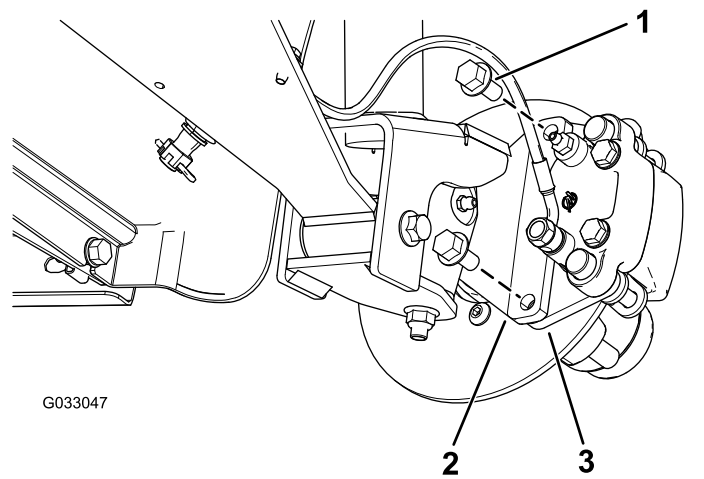
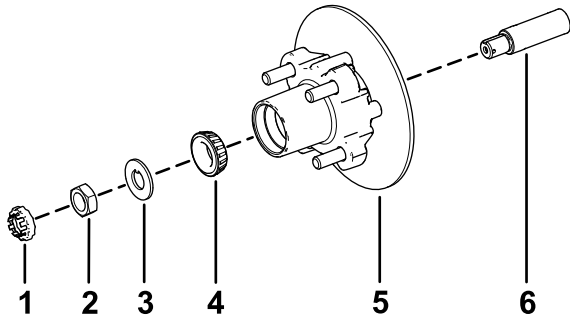

Figure 34
Figure 38
3. Remove the flange-head bolts (3/8 x 3/4 inch) that secure the bracket for the brake assembly to the spindle and separate the brake from the spindle (Figure 34).
1. Apply a light coat of the specified grease to the spindle (Figure 38).
2. Assemble the hub and rotor onto the spindle with the rotor inboard (Figure 38).
3. Assemble the outboard bearing onto the spindle and seat the bearing to the outboard race (Figure 38).
4. Assemble the tab washer onto the spindle (Figure 38).
5. Thread the spindle nut onto the spindle and tighten the nut to 15 N·m (11 ft-lb), while rotating the hub to seat the bearing (Figure 38).
2. Align the brake pads to either side of the rotor (Figure 34) and the holes in the caliper bracket with the holes in the brake mount of the spindle frame (Figure 38).
3. Secure the caliper bracket to the spindle frame (Figure 34) using the 2 flange-head bolts (3/8 x 3/4 inch).